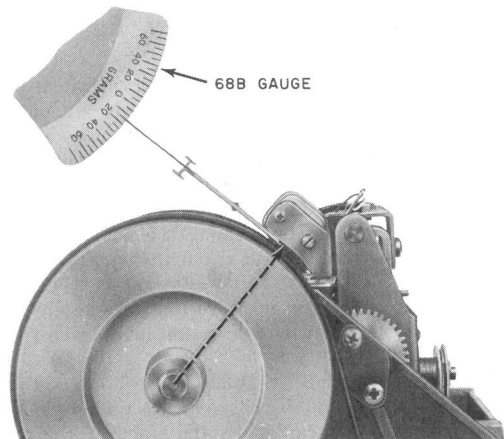

Fig. 14—Magnetic Head Pressure
3.28 Magnetic Head Pressure (Fig. 14): With the magnetic head in the electrically operated position, the pressure of the magnetic head on the recording band shall be a minimum of 28 grams, a maximum of 43 grams. Use No. 68B gauge to measure this quantity by placing tip of gauge under recording head bracket between the two mounting screws and measuring the pressure on a line passing through the drum center and between the two screws. The end of the head pressure spring shall be placed in the hole which provides the maximum pressure within the permissible range.